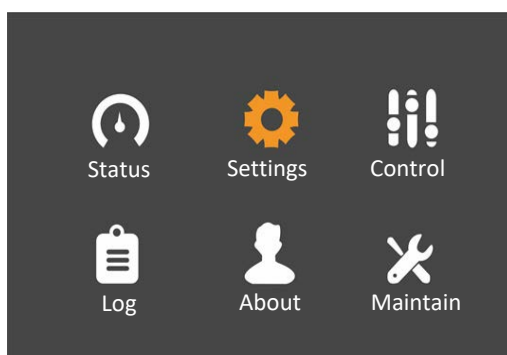

Figure 5-10 Main menu
1. At the main menu screen, press the  or  key to switch the cursor to select 'Settings', then press the  key to confirm it. See Figure 5-10.